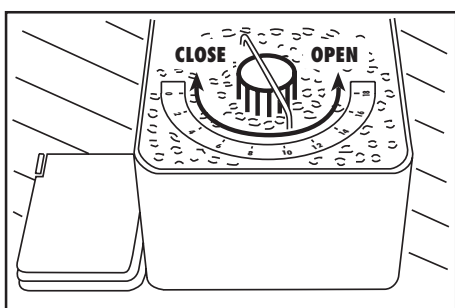

Fig. 9
- Fill the container with fresh coffee beans. Check that the knob of the coffee bean hopper is turned counterclockwise on "OPEN" (fig.9).